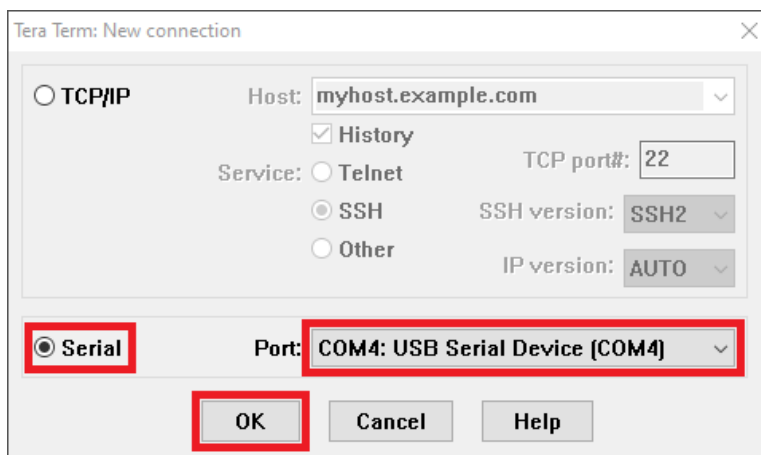

Figure 11. Tera Term New Connection Window
3. Open Tera Term. A new connection should automatically open (Figure 11), if not, select **File > New Connection**. From the window, select **Serial** and verify that the **USB Serial Device COM** port is selected from the dropdown list. Click the **OK** button to open the connection.